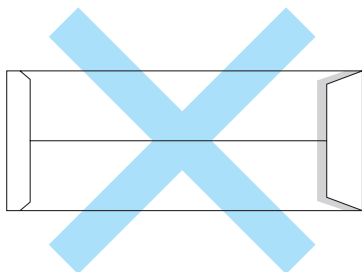

Figure 1-7
- with sealing flaps as shown in Figure 1-7